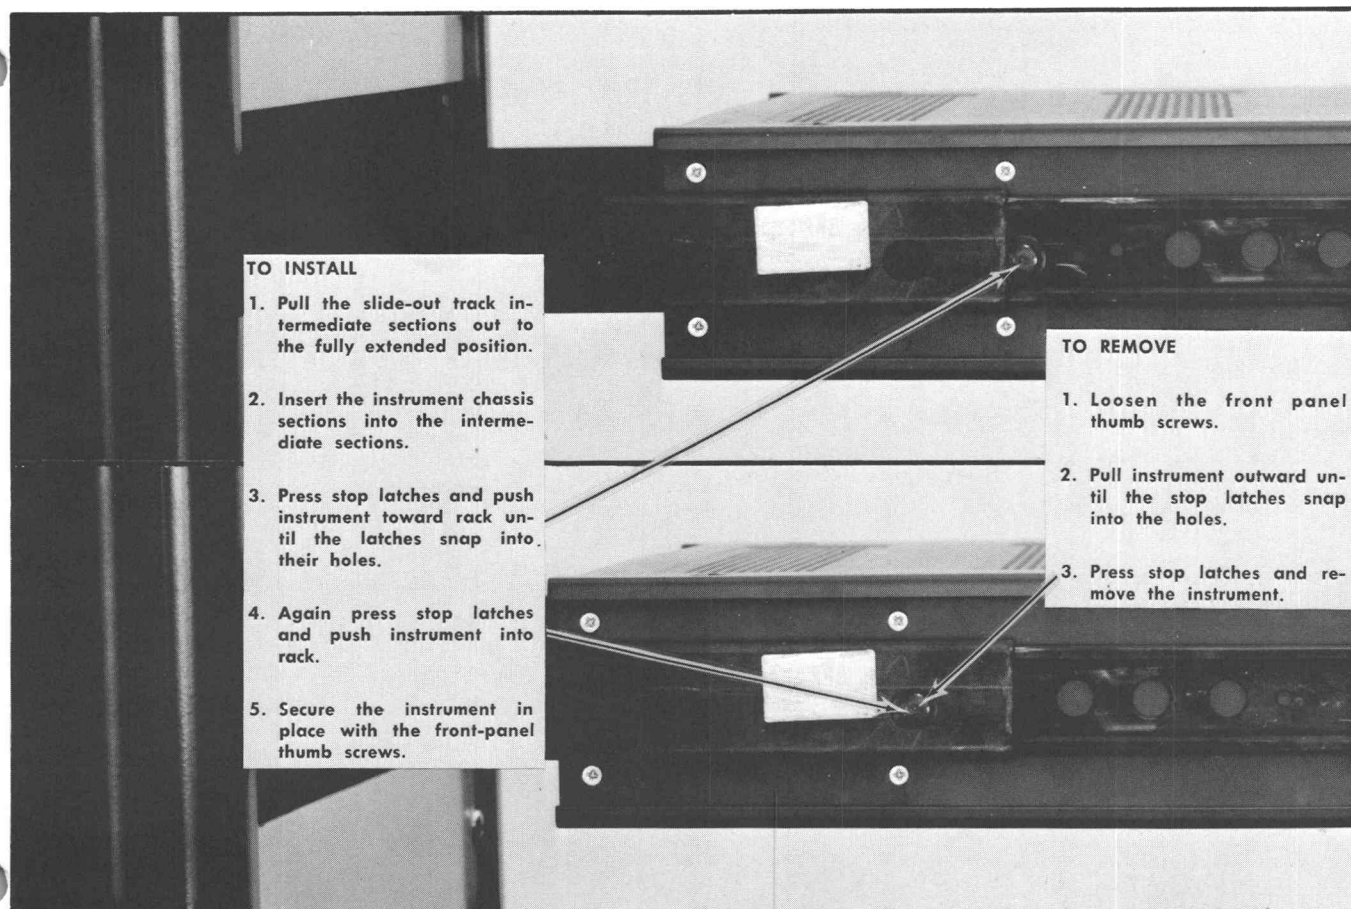

Fig. 5-7. Installing and removing the instrument.
1. Insert the instrument into the rack as described and as shown in steps 1 through 4 of Fig. 5-7 installation procedure.